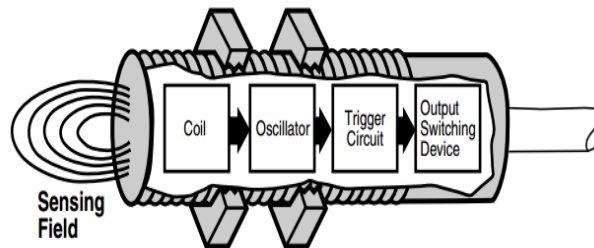

Figure 3: Inductive proximity sensor
- (b) Refer to **Figure 3**, describe the working operation of inductive proximity sensor.